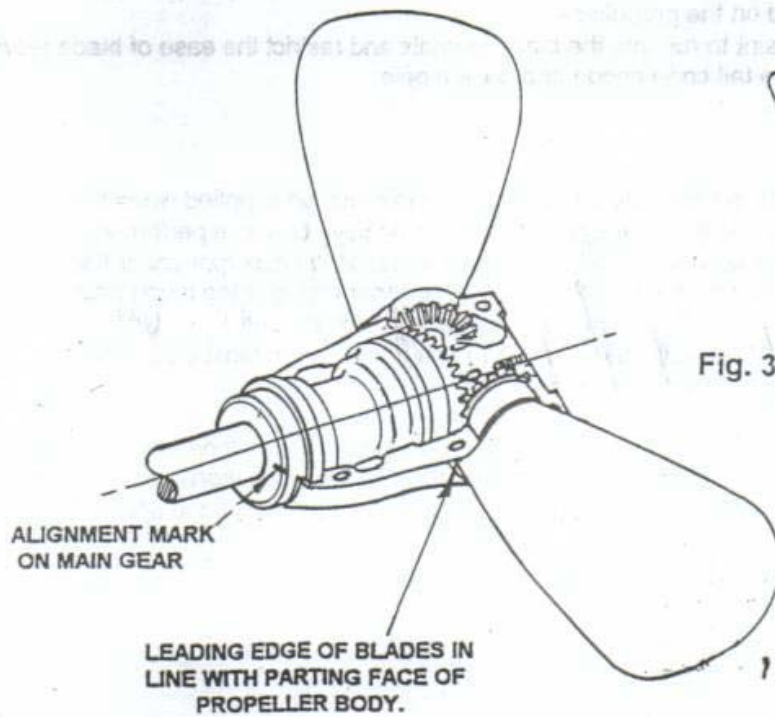

Fig. 3
- 14. Align the mark on the main gear with the parting face. See fig 3.
- 17. Check that both blades are correctly feathered when the alignment mark on the main gear aligns with the parting face of the propeller bodies. See fig 3.